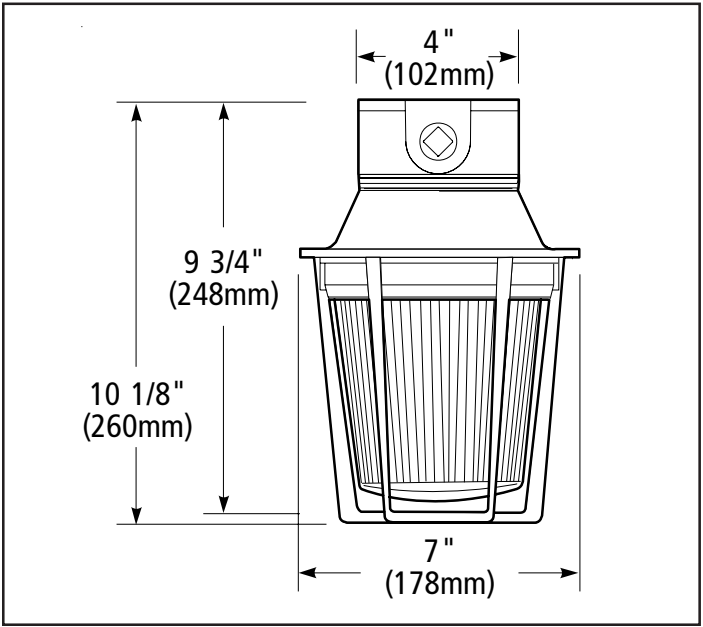

Figure 3. Detail of Ceiling Mounting
- Ceiling Mount Installation (Figures 3 and 5):** Unscrew and remove the clear outer globe. Remove the two screws holding the circuit assembly to the bottom of the fixture. To separate the ceiling junction box from the fixture housing, remove the remaining two screws at the bottom of the fixture.